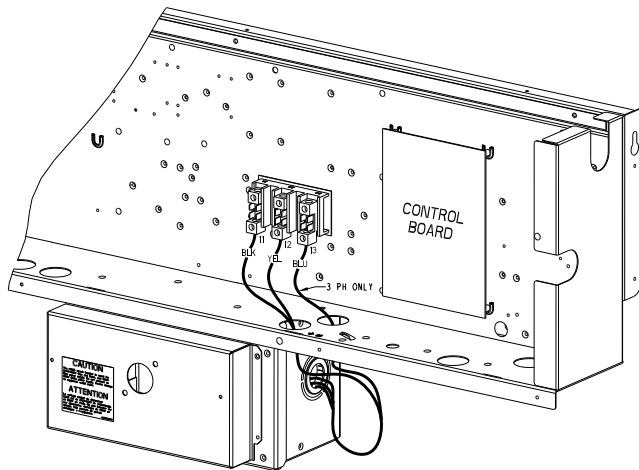

Fig. 30 — HACR Enclosure Location
1. Remove the control box access panel. The HACR enclosure is located below the control box (see Fig. 30).